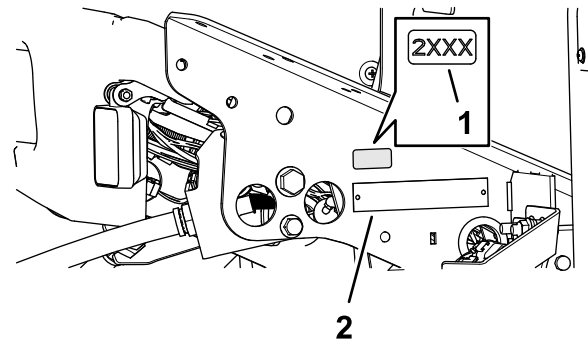

Figure 36
1. Use rubbing alcohol and a clean rag to clean the floor bracket area next to the serial plate, and allow the bracket to dry (Figure 36).